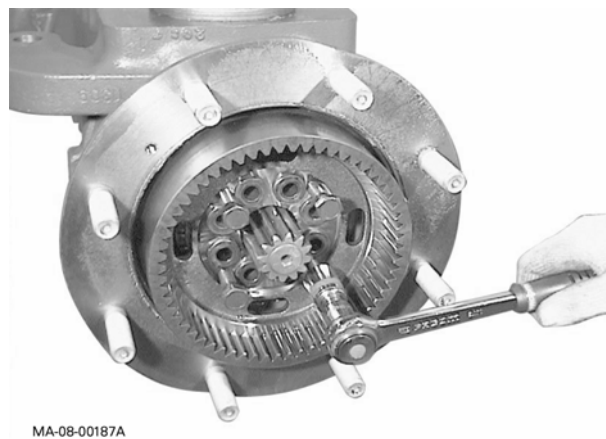
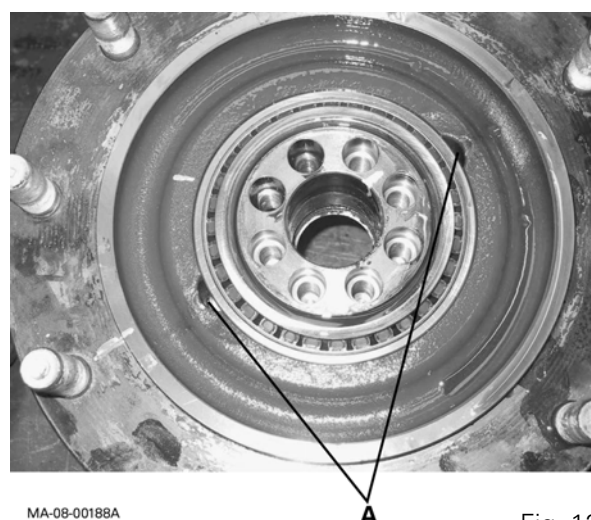

Fig. 11
Fig. 12
12. To remove the ring gear assembly from its housing, screw at least two of the screws that have just been removed into the threaded extraction holes (Fig. 11). While keeping an eye on the ring gear ports, avoid positioning the screws on the cast iron notches (Fig. 12).